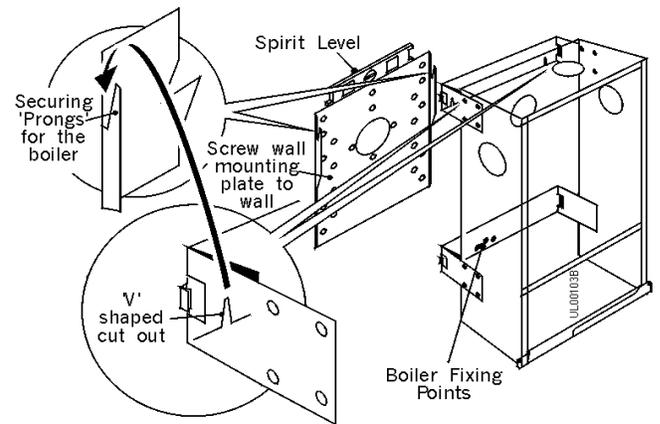

Fig. 11
- Choose one of the bottom boiler fixing points, mark the position then drill and plug to accept a 1" woodscrew (not supplied). See Fig.11.